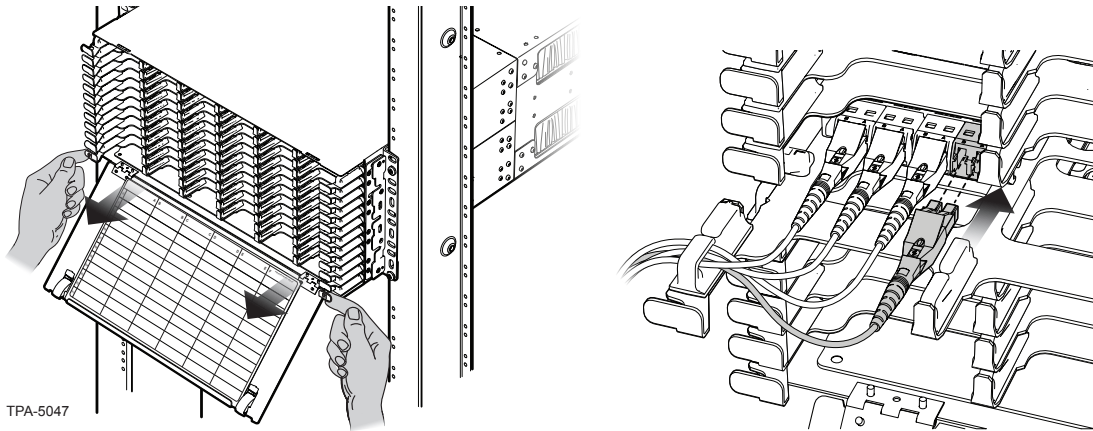

Figure 22 — Mate Jumpers and Route Legs
- Step 1:** Open housing front door and pull out tray (Figure 22).
- Step 4:** Route jumper legs, half to the right and half to the left side of the housing. (Do NOT cross legs in opposite directions.) Store legs in clips at front of tray (Figure 22).